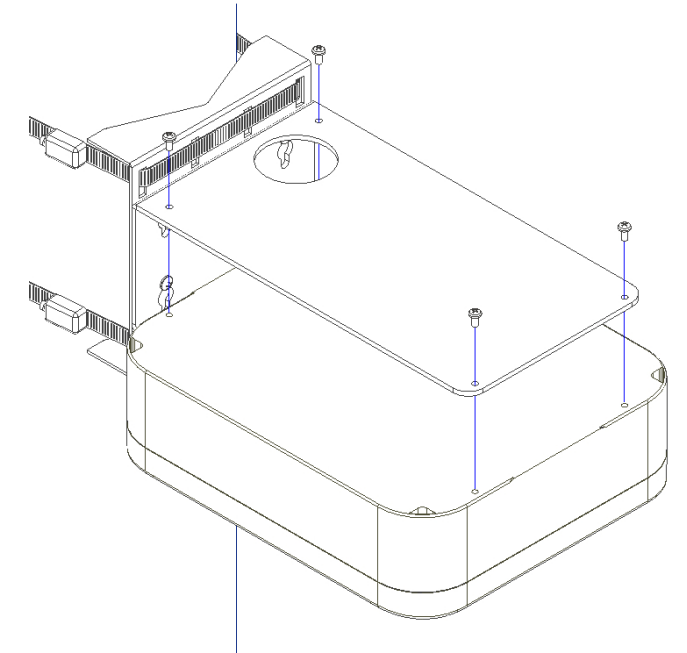

Figure 3 - Enclosure Install
Step 2 – Fasten the Right Angle Bracket to the Pole Mount Bracket using the provided #10 screws (Figure 3).
Step 3 – Route any cabling as needed, and install the access point with the provided #8 plastic screws. A set of nylon spacers and longer screws are provided to increase the height of the T-Bar if necessary. Screw on the cover to 8 in-lbs for a proper seal using the provided M4 x 20mm self captured screws (Figure 3). Installation is complete.